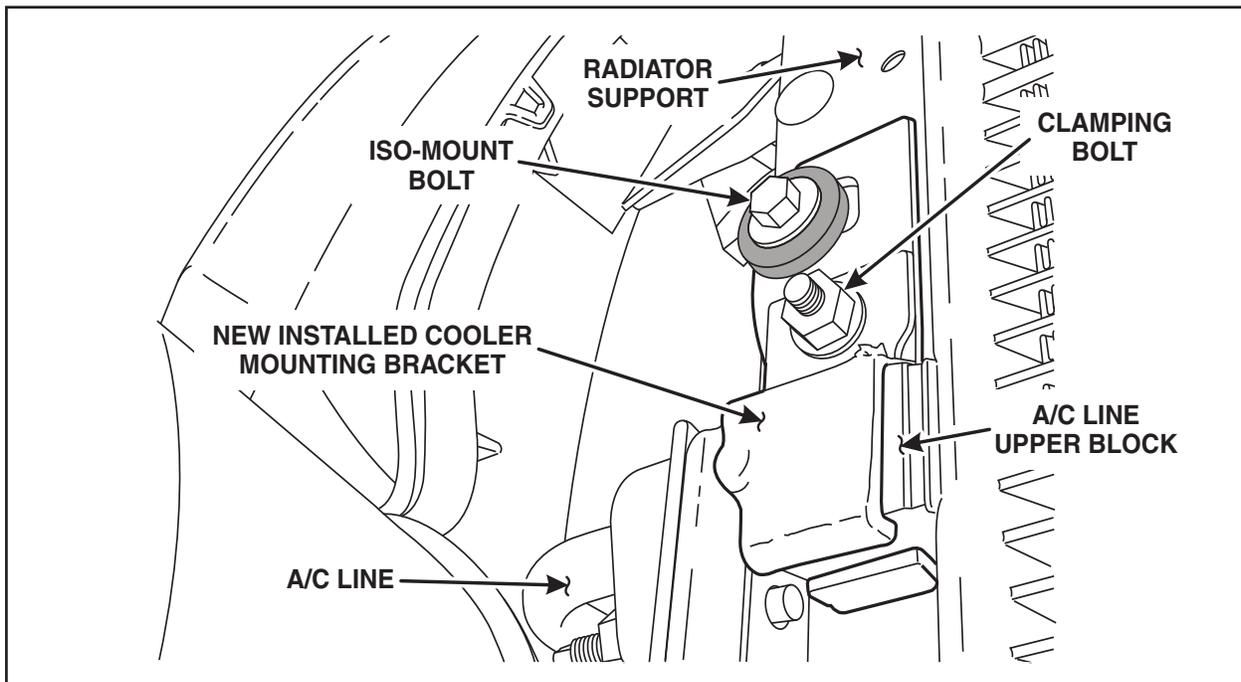

FIGURE 6
4. Install the **new** mounting bracket. See Figure 6.